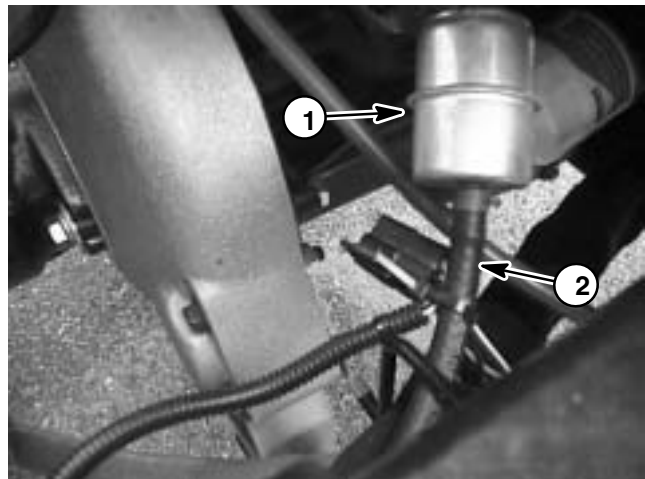

Figure 19
7. Clamp fuel hose between the fuel tank and fuel filter to prevent leakage (Fig. 19). Disconnect fuel hose from the fuel filter. Position disconnected fuel hose away from engine.
8. Connect fuel hose to the fuel filter (Fig. 19).